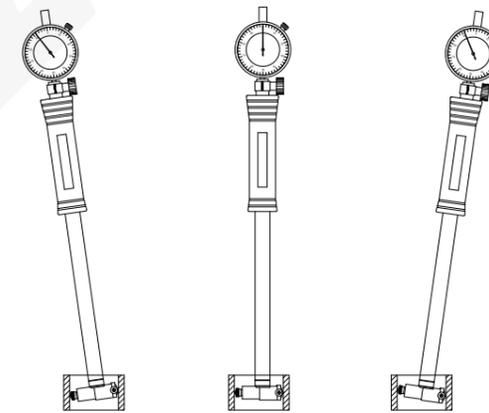

Fig.1
(3)Set zero(as setting ring gage for a example): Insert the bore gage into setting ring and sway the bore gage wiggly(fig.1), to find the "turning point" of the pointer. Loosen bezel locking screw and rotate bezel to make "zero line" coincide with "turning point", then tighten bezel locking screw. Sway the bore gage wiggly several times to make sure the "zero line" coincide with the "turning point".